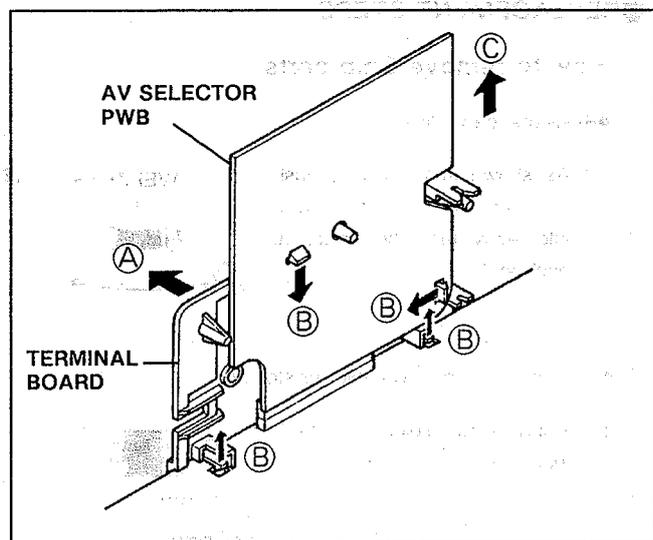

Fig.1
2. While widening the four claws marked ③, remove the TERMINAL BOARD in the direction of arrow marked ④ as shown in Fig. 1.
3. Raise the AV SELECTOR PWB in the arrow direction marked ⑤ as shown in Fig. 1.
(1) Turn off the power and pull out the power cord from the outlet.
(2) Replace memory ICs. (Be sure to use memory ICs with initial setting values stored.)
(3) Plug the power cord into the outlet and turn on the power.
(4) Setting receive channels: Set the receive channel (CHANNEL PRESET). Refer to the OPERATING INSTRUCTIONS for this setting.
(5) User setting. Check the user setting value of Table 1, and if setting value is different, set the correct value. Refer to the OPERATING INSTRUCTIONS for setting.
(6) Setting SERVICE MODE MENU Verify what to set in the SERVICE MODE MENU, and set whatever is necessary. (Fig. 1) Refer to the SERVICE ADJUSTMENT for setting.
(Fig. 1)